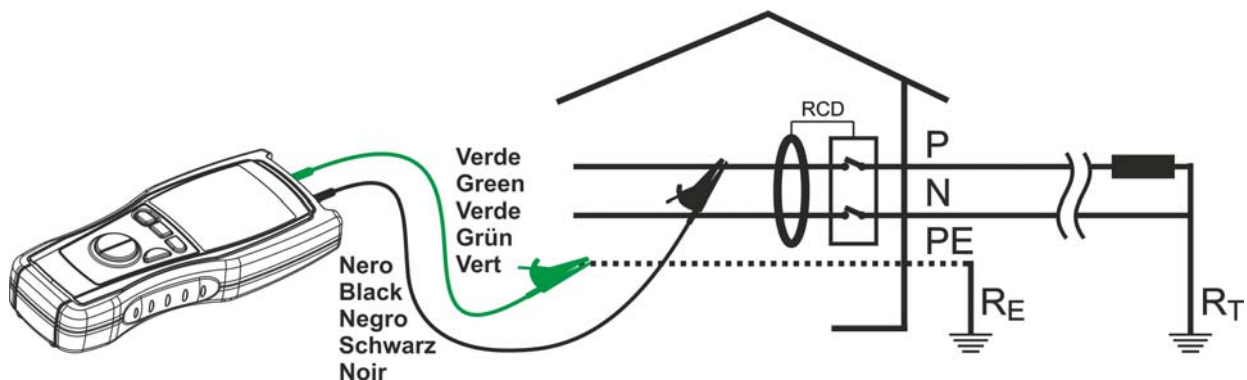

Fig. 12: Connection of the instrument's terminals during RCD test
5. Connect the green cable to the protective conductor (earth) and the black cable to the phase conductor at the lower end of the RCD under test (Fig. 12)